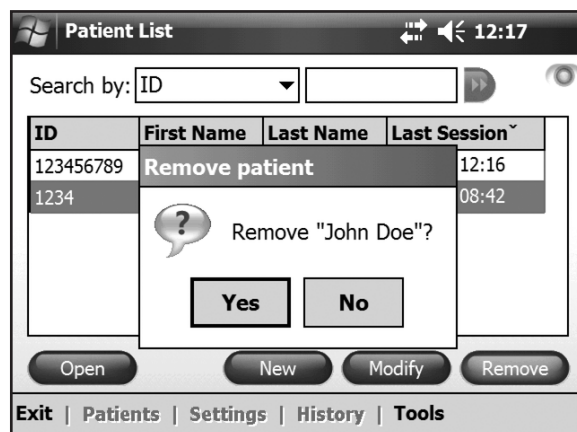

Figure 7-37: Remove Patient confirmation window.
3. The Remove Patient confirmation window will open. See Figure 7-37.